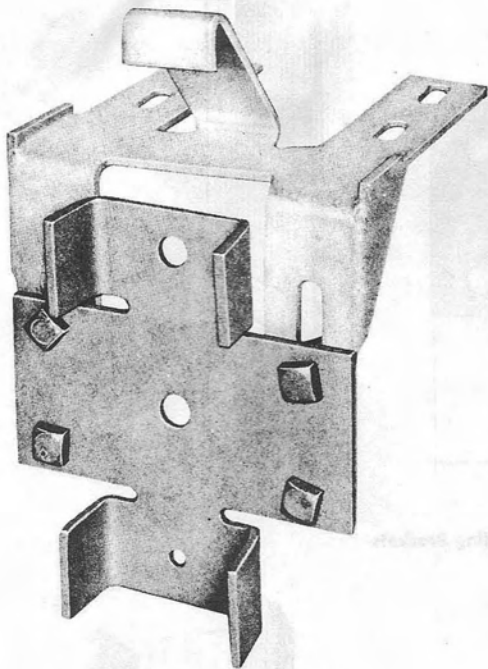

Fig. 11—Alternate Method
- (2) Install the nuts on the bolts and secure the case to the pole mounting bracket.
- (3) **Alternate Method:** Remove the mounting bracket from the apparatus case. Bolt the bracket to the pole mounting bracket as shown in Fig. 11. Insert the suspension bolt through the hole in the pole mounting bracket. Reattach the mounting bracket to the apparatus case. Raise the apparatus case to its position on the pole and insert the suspension bolt through the hole in the pole. Tighten the suspension bolt attachments.